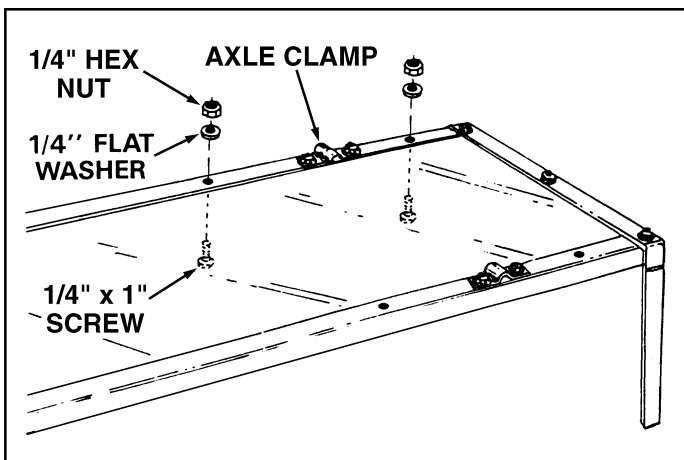

FIGURE 4
6. Assemble four 1/4" x 1" screws, flat washers and hex nuts to the side angles and bottom panel using the holes on each side of the axle clamps. **Tighten the four nuts.** See figure 4.